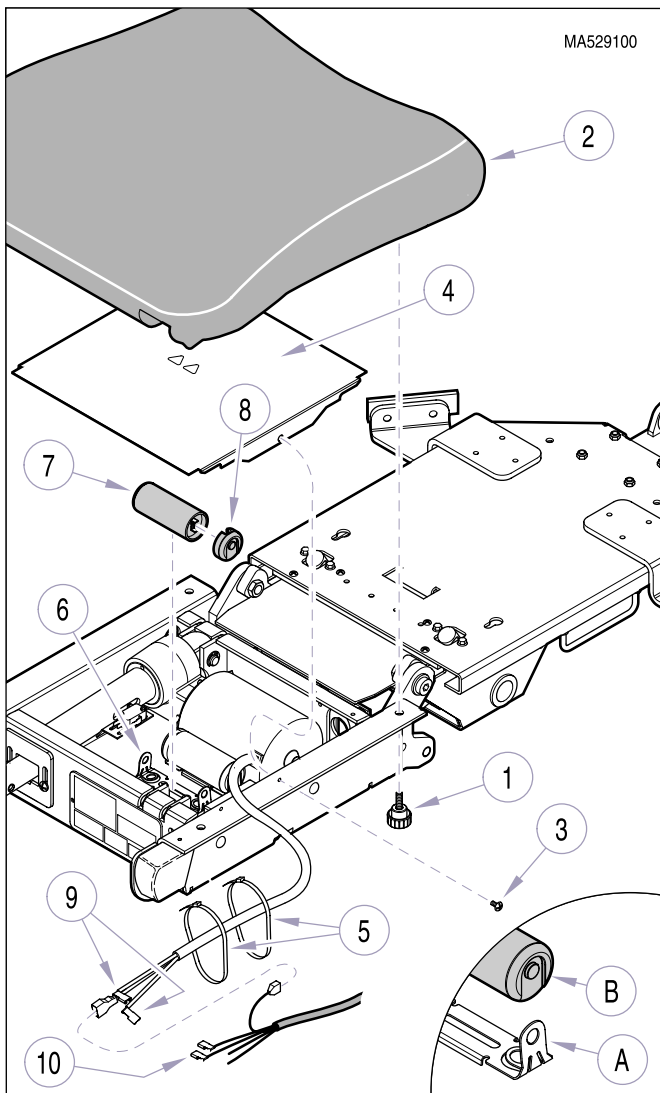

Figure 4-14. Foot Capacitor Removal / Installation
- (1) Unplug table power cord from outlet receptacle.
- (2) Remove four knobs (1, Figure 4-14) and seat upholstery (2).
- (3) Remove two screws (3) and electrical cover (4).
- (4) Cut two cable ties (5); then using a screwdriver, pry tab (A) of mounting bracket (6) outward; then remove foot capacitor (7) from mounting bracket.
- (5) Remove cap (8) from foot capacitor (7).